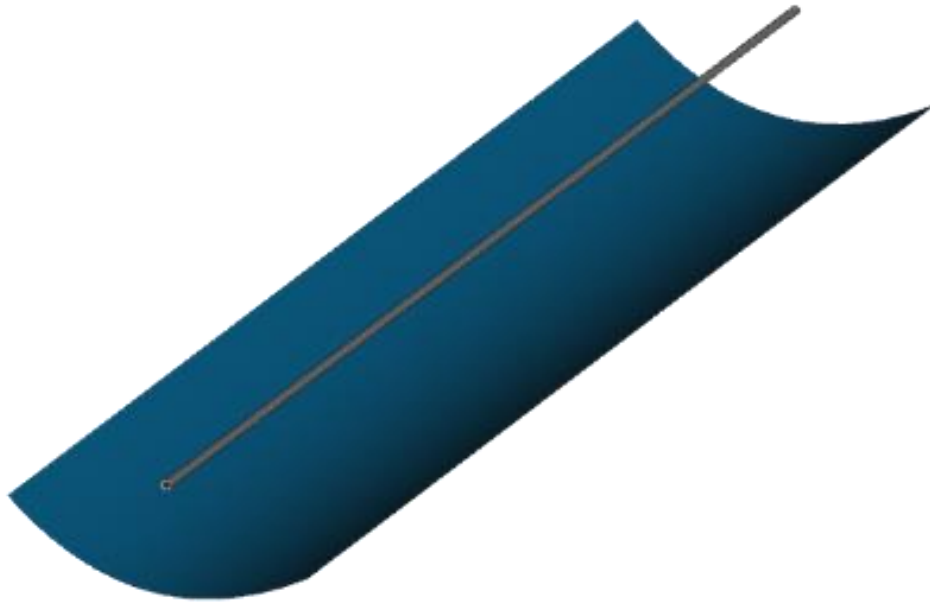

Fig. 1. Geometry of the PTC collector that is to be simulated.
The PTC, illustrated in Fig. 1, consists of a parabolic mirror, a glass envelope with an anti-reflective (AR) layer and an absorber tube centered in the focal point of the parabola. Fig. 2 illustrates the cross-sectional view of the receiver and the shaped mirror, together with a description of each element.